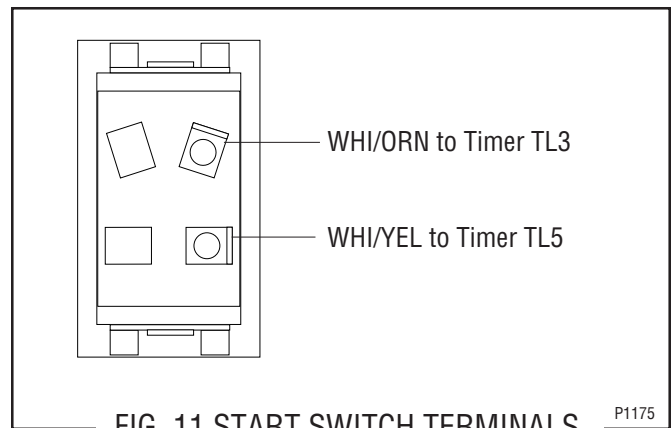

FIG. 11 START SWITCH TERMINALS
4. Refer to Fig. 11 when reconnecting the wires.